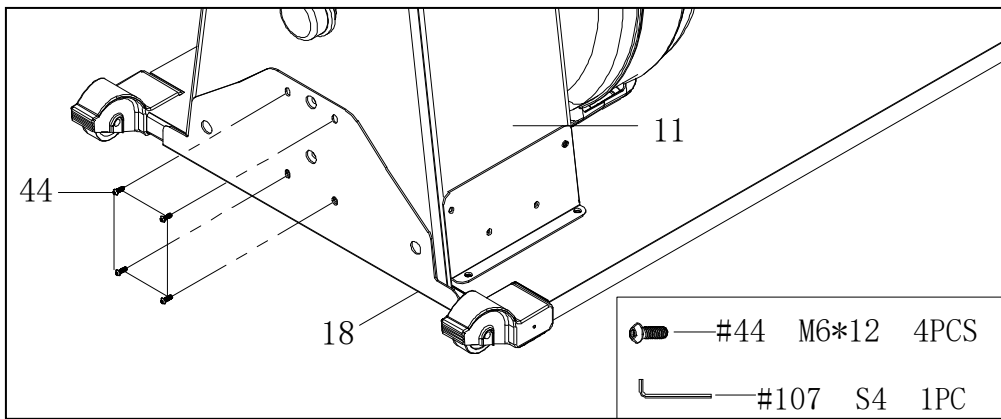

Fig. 15
3. Remove the strengthening plate (18) and the four bolts (44) from the main frame (11) (Fig. 15).